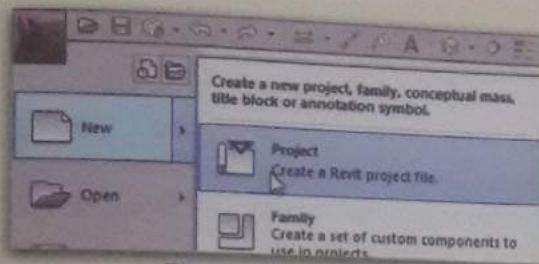

Figure 4: Open a Project.
1. Click on Application menu » New » Project » open Default Metric.rte (Figure 4).